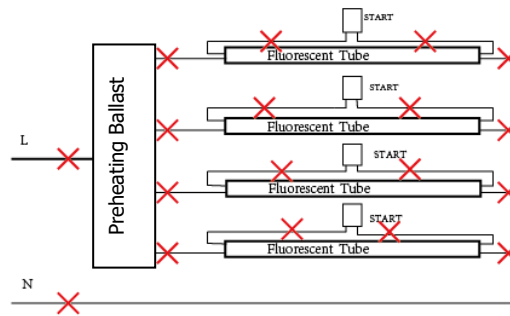
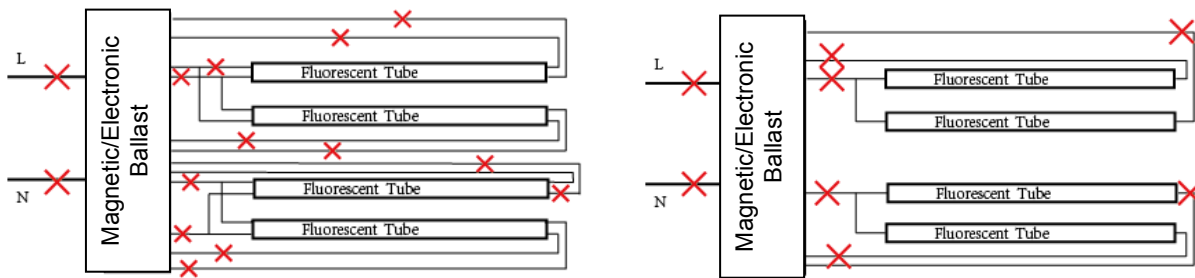

Fig.3 (Use with preheating Ballast) or
Fig. 4 (Use with Magnetic/Electronic Ballast)
STEP 5: In accordance with the below drawing, cut off all the wires connected to the ballast and starter(if provided), shown as below, Fig.3 (Use with Preheating Ballast) or Fig. 4 (Use with Magnetic/Electronic Ballast) :